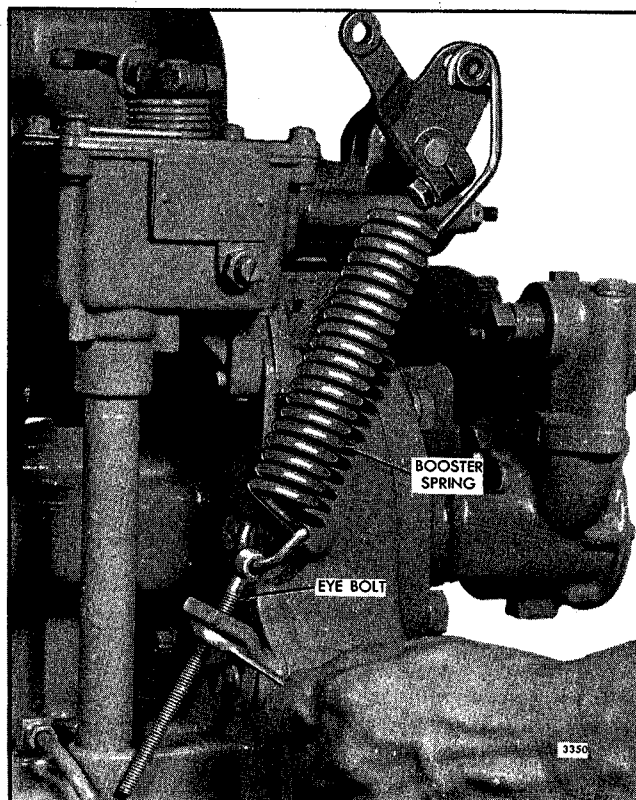

Fig. 6 - Adjusting Booster Spring
2. Refer to Fig. 6 and loosen the booster spring retaining nut on the speed control lever. Loosen the lock nuts on the eye bolt at the opposite end of the spring.